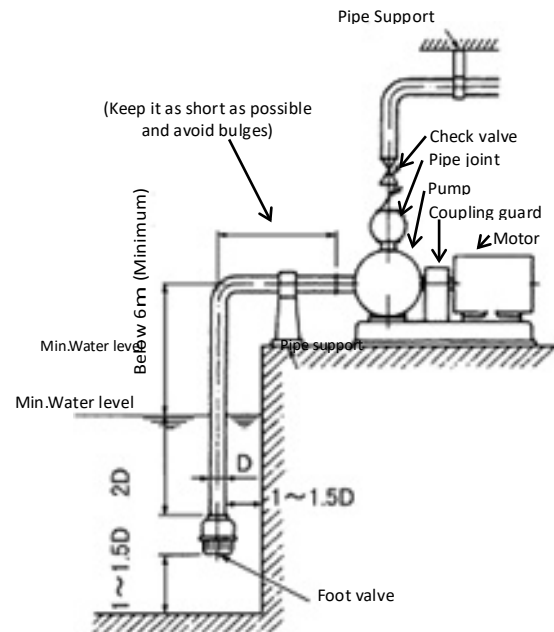

Figure 2 Piping Installation
(1) If there is a phenomenon that foreign objects enter the pump delivery liquid (metal particles and sand particles from the pipeline, etc.), a filter should be installed at the suction end. Filters should be cleaned regularly to prevent clogging. Even if the liquid pumped by the pump is clean, attach the filter the first time the pump runs, because there are still some metal particles and sand left in the pipe.
(2) If the weight of the suction or discharge piping is applied to the pump, the alignment of the pump may be damaged. At this time, take support measures for the pipeline as shown in Figure 2
(3) A check valve should be installed in the following cases, that is, when the pipeline is long, the actual pump head is high, the pump is running in automatic mode, the liquid is transported to a pressure storage tank, and when multiple pumps are running in parallel. The check valve should be installed between the pump and the discharge valve.
(4) Install an exhaust valve where air is unavoidably trapped. Exhaust valves should not be installed in the parts where negative pressure occurs in the suction pipe, because the valves installed in such parts will cause air to be sucked in.
(5) If there is a risk of water hammer, appropriate measures can be taken, such as installing a quick check valve.
(6) When the water pump is used for suction to a high place, the end of the suction pipe should be arranged at a depth of more than 2 times the pipe diameter (D), as shown in Figure 2. And keep the pipe ends 1 to 1.5 D or more from the bottom.